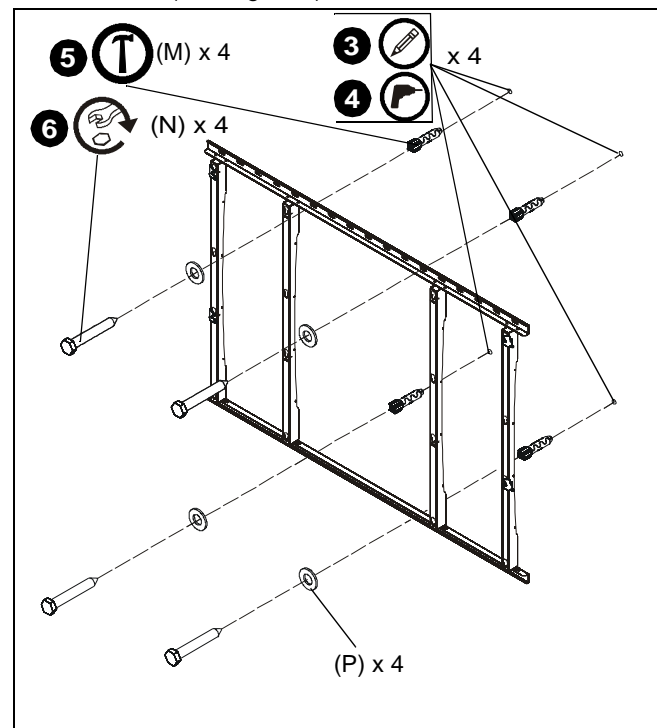

Figure 3
3. Using assembled mount as a template, mark four holes in selected mounting holes on wall. Use a level to make sure of an even mount. (See Figure 3)
4. Drill four 3/8" holes in wall 3 1/2" deep at marked locations. (See Figure 3)
5. Install four concrete anchors (M) into four drilled holes on wall. (See Figure 3)
6. Install four 3/8 x 2 1/2" hex head lag screws (N) through four 3/8" washers (P), holes on mount and into four concrete anchors. (See Figure 3)